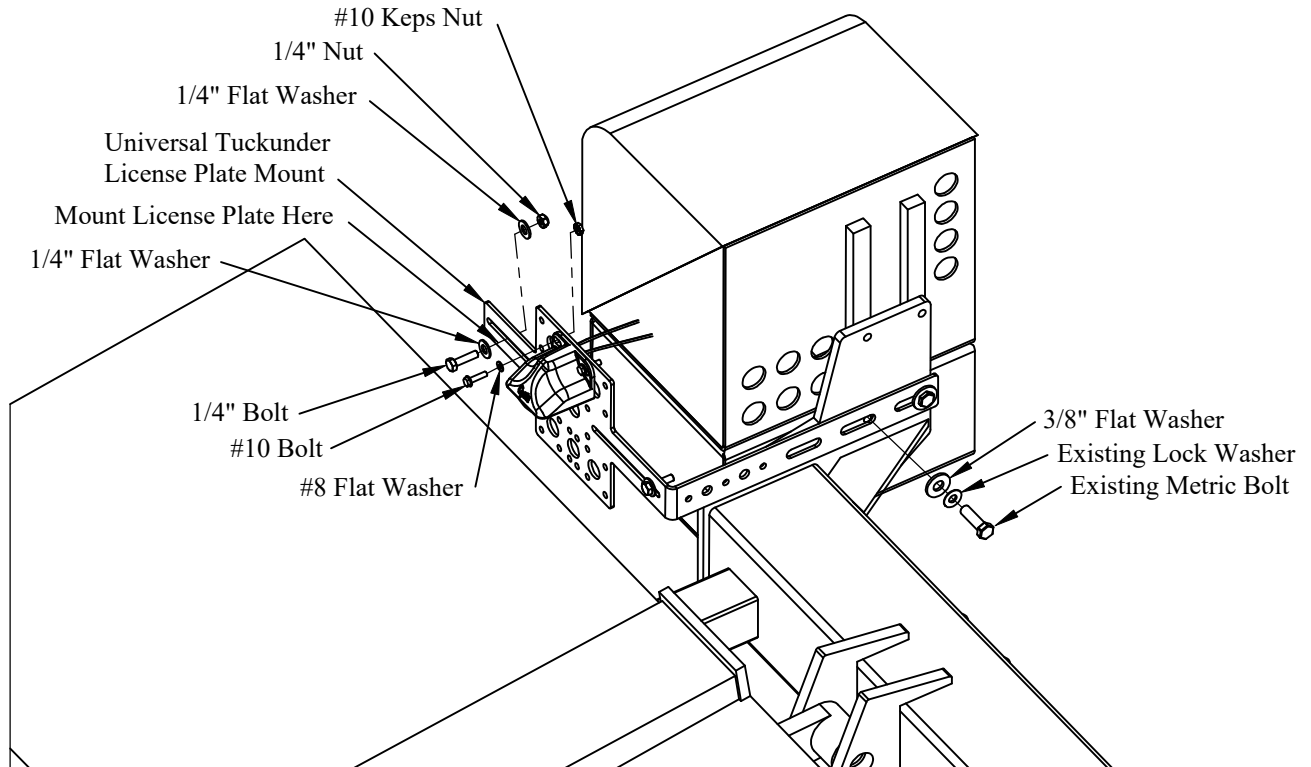

Figure 3: Recommended TKL mounting configuration.
1. **Install** the Universal Tuckunder License Plate Mount using the provided hardware and (2) lower power unit mounting bolts (Figure 3).
2. **Install** the License Plate onto the Universal Tuckunder License Plate Mount using the provided hardware (Figure 3).